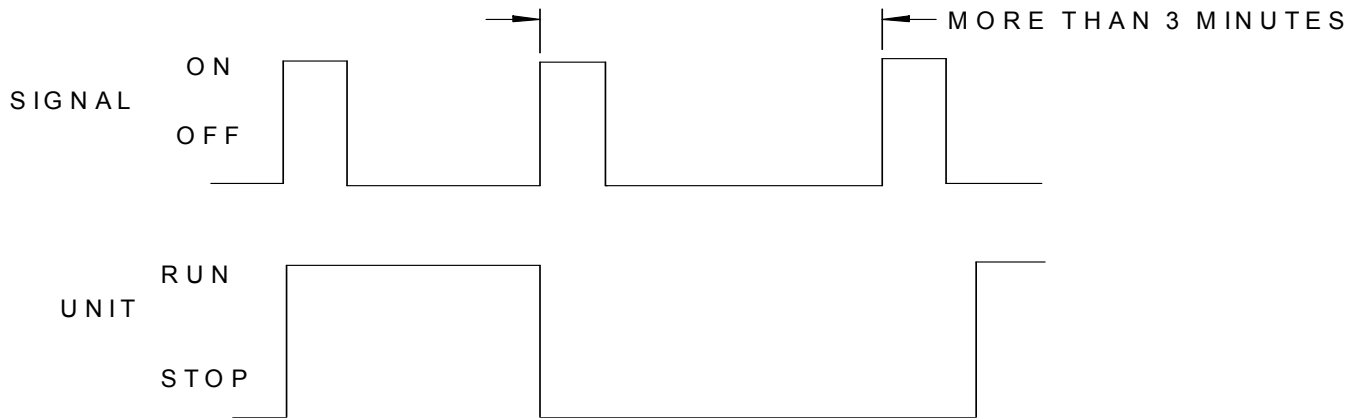

FIG 24 - "RUN" / "STOP" SIGNAL
- Pin assignment for connectors see Figure 24.